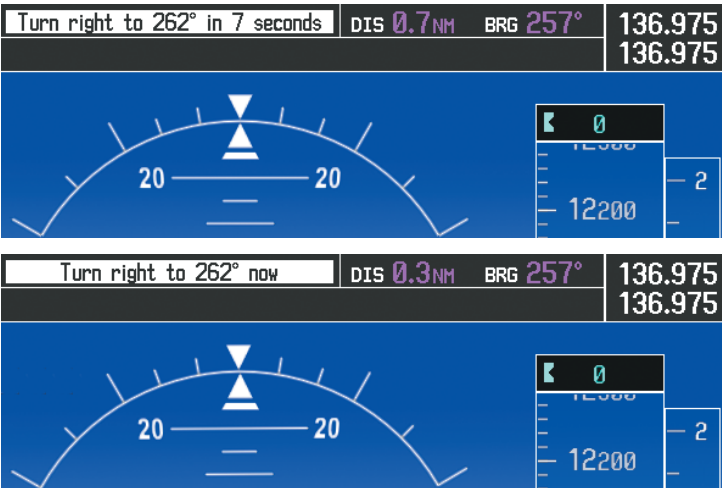

Figure 5-114 Turn to Intercept V244
8) At SLN, Victor Airway 244 (V244) is intercepted. Turn prompts are displayed in the PFD Navigation Status Box as seen in Figure 5-114.